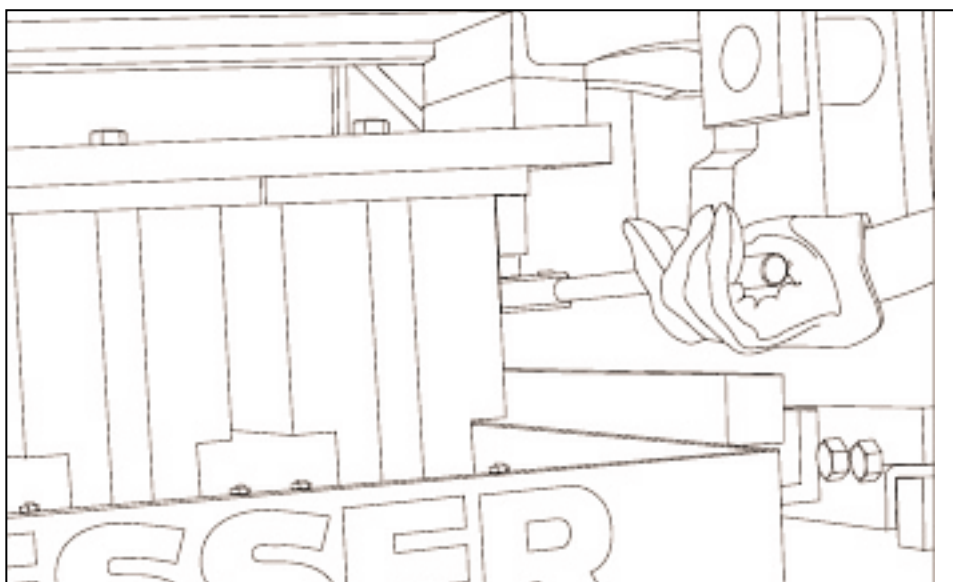

Figure 5.15 BOLT STRIPPER HEAD PLATE TO STRIPPER HEAD FRAME.
- 5.4.23 Bolt stripper head plate to stripper head frame. **Do not tighten bolts completely**. Tighten until head plate contacts the stripper head frame (see figure 5.15).